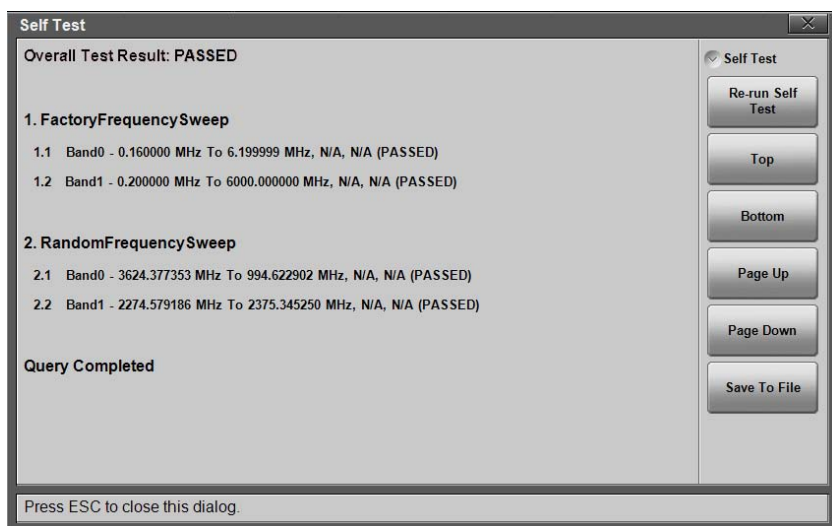

Figure 7-4. Self Test Window
1. Press the **System** (8) key on the interface screen keypad.
2. Press the **Diagnostics** submenu, then **Self Test**. The test will start and results are displayed in the Self Test window (see Figure 7-4).
Self Test: Press this submenu key to initiate diagnostic tests on the instrument. Test results are listed in the Self Test window, illustrated in Figure 7-4 on page 7-5. Press **Esc** to close the window.